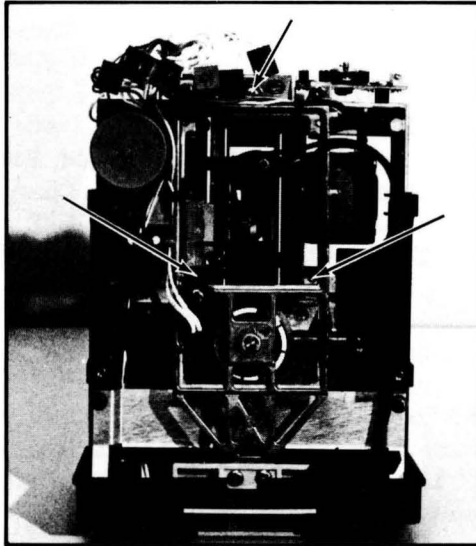

Figure 5-4. Head Assembly Retaining Screws
j. If the amplitude of one of the lobes of the waveform is less than 80% (.8 mils) of the other, slightly loosen the three screws shown in section V (see fig. 5-4) and adjust the radial head alignment by gently turning the head alignment cam screw.